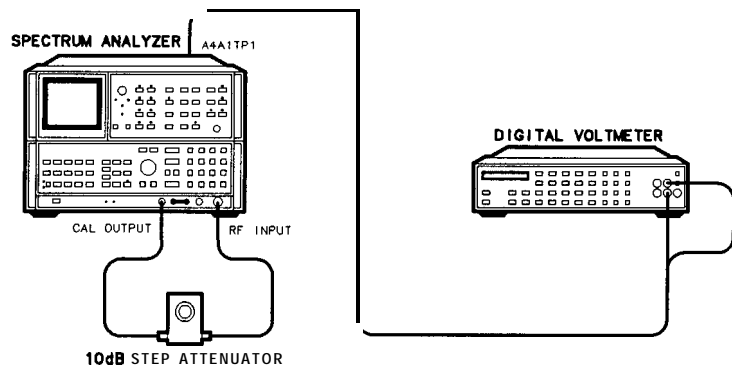

Figure 3-35. Video Processor Adjustments Setup
1. Position the spectrum analyzer upright as shown in Figure 3-35. Remove the IF-Display Section top cover.